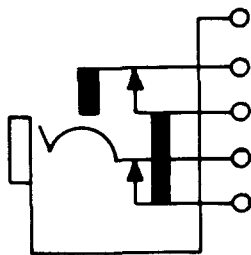

Fig. 2—216-Type Jack
2.02 **216A, C, and F:** These single-mounted jacks (Fig. 2) are used with 1D, 1E, 153, 209, 241, 305, 327, 328, 347, 373, and 464 plugs. These jacks are heavily insulated. They are arranged for use with the 347 and similar-type plugs. These jacks are mounted with the springs in a vertical plane. The terminal of the tip spring and terminal of the spring, which makes contact with it, are arranged to accommodate two No. 16B and S gauge wires. The 216F jack is equipped with No. 2 metal contacts and the tip spring has a gold-plated surface for contacting the plug.